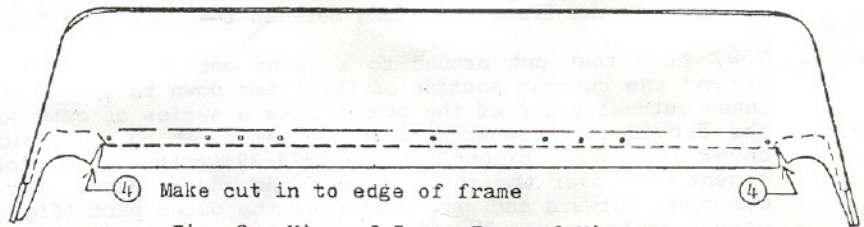
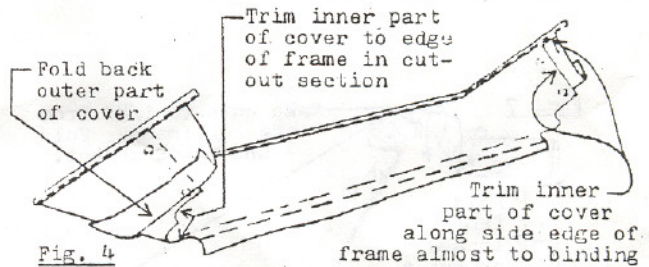
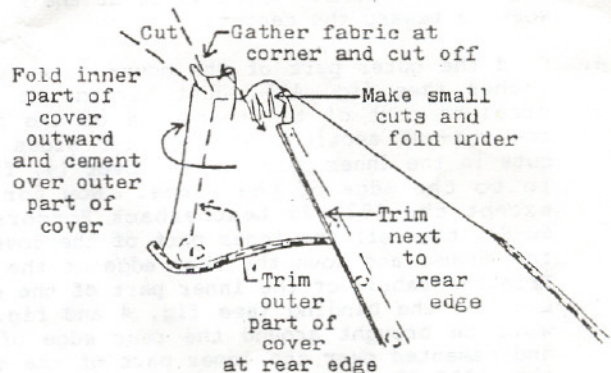

Fig. 3 - View of Inner Face of Visor Frame
Fig. 4
Fig. 8 - 1928-29 Leatherback Fordor
- Fold the outer part of the cover back for about two inches (see fig. 4). Just beyond the ends of the straight part of the rear edge of the frame, where the cut-out sections at the rear sides begin, make cuts in the inner part of the cover (4, fig. 3). Cut in to the edge of the frame. Now for all models except the 1928-29 Leatherback Fordors (60-A and 60-B), trim off the inner part of the cover at the edge of the frame and down the rear edge of the side of the frame to the binding. Do not cut the binding. Trim the fabric of the inner part of the cover as close to the edge of the binding as you can without cutting the binding (see fig. 4 and fig. 5). For these models, the outer part of the visor cover will be brought around the rear edge of the frame and cemented over the inner part of the cover. For the 1928-29 Leatherback Fordors, the opposite is true. The outer part of the cover will be trimmed away along the rear side edges, and the inner part of the cover will be brought around and cemented over the outer part (see fig. 8).
8. Now, from that cut around to a point one inch in from the side edge of frame, trim the fabric around the cut-out section of the frame down to $\frac{3}{8}$ of an inch from the frame (8, fig. 6). Around these cut-out areas of the frame, make a series of cuts down to within $\frac{1}{8}$ inch of the frame. Fold the fabric in these areas down and cement it to the inside of the frame over the inner part of the cover (fig. 7). Except for the 1928-29 Leatherbacks, fold the rear sides of the cover inward and cement them over the inner part of the cover, also. For the Leatherbacks, fold the inner part of the cover outward and cement it over the outer part (fig. 8). For all models, be sure to not apply cement to the cover beyond the points that will be concealed by the upper body pillar of the car. Tuck the ends of the binding between the side of the visor and the body pillar when installing the covered visor onto the car.
(See Fig. 8)